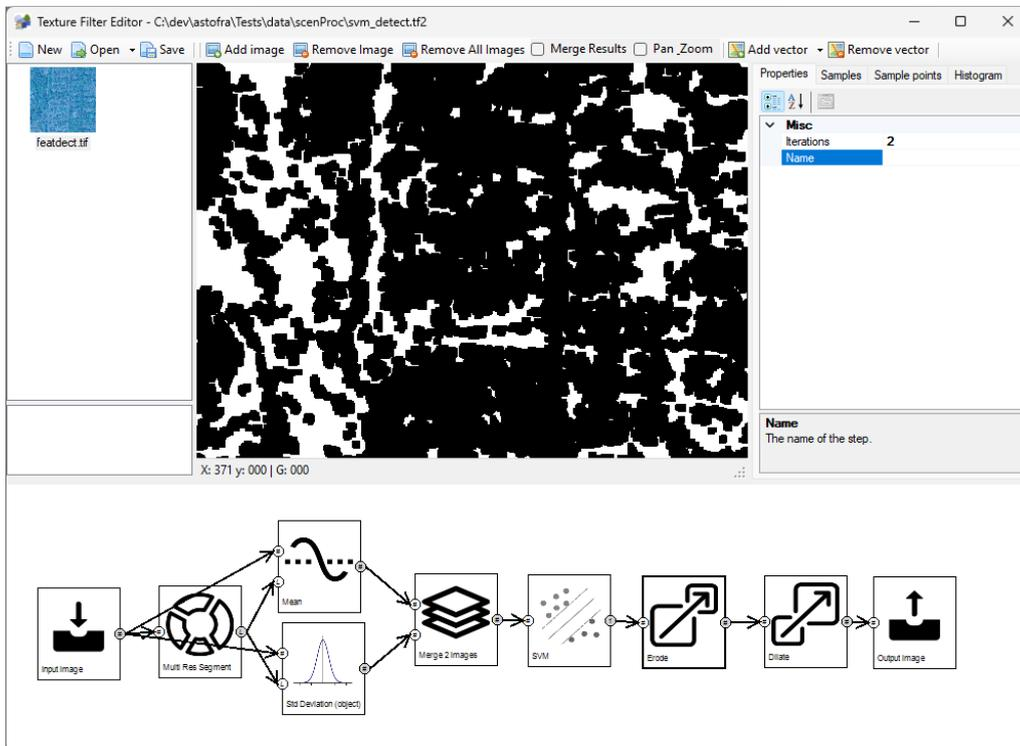

Figure 6.55: Eroding the result to filter out small vegetation
7. A 2 iteration erode step is performed on the SVM output to get rid of small vegetation areas, see Figure 6.55.